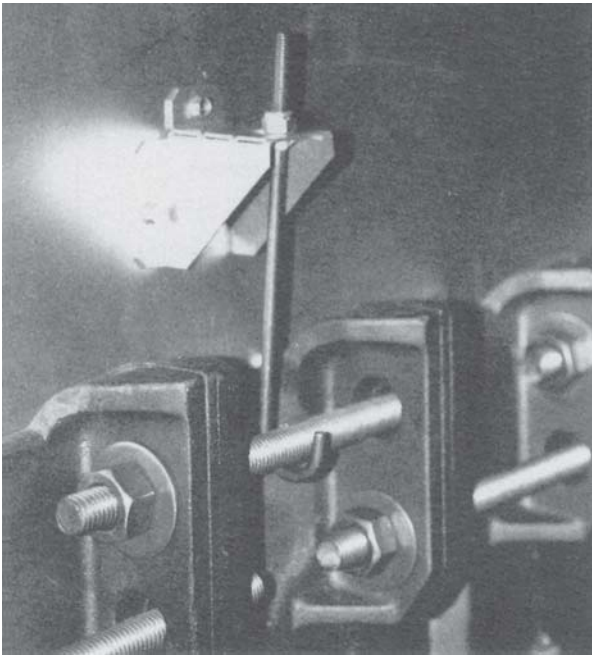

Figure 17: Left Side Canopy Intermediate Bracket
2. Attach the two (2) canopy brackets to the front end cap of canopy with four (4) #10 x 1/2" sheet metal screws each.
10. Attach either the rear flue outlet damper assembly or rear outlet canopy cover to the canopy with the 5/16" flat washers, lock-washers and brass nuts and tighten securely. Attach the rear flue outlet damper assembly or cover to the back section with the four (4) 5/16" flat washers and cap screws and tighten securely.
12. On the longer canopy sizes, Intermediate Mounting Brackets are provided, two (2) are required on sizes 907A thru 909A and four (4) are required on sizes 910A thru 912A. Refer to Figures 17 and 18.
- b. Secure brackets to both sides of canopy with three (3) #10 x 1/2" sheet metal screws per bracket.
on center section draw-up rod (hooks should face outward). Secure canopy with 5/16" flat washers, lock washers and brass nuts. See Figure 17.